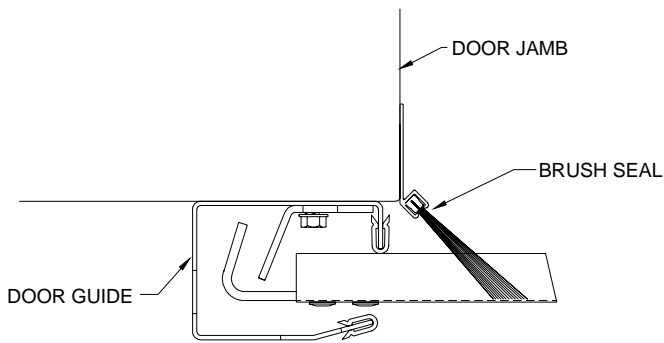

Figure 18.
14.2 Place the door in the closed position before installing the brush seal. Position brush seal so that it just touches the flat portion of the curtain. See Figure 18. Fasten brush seals to jamb every 12 inches with appropriate fasteners.